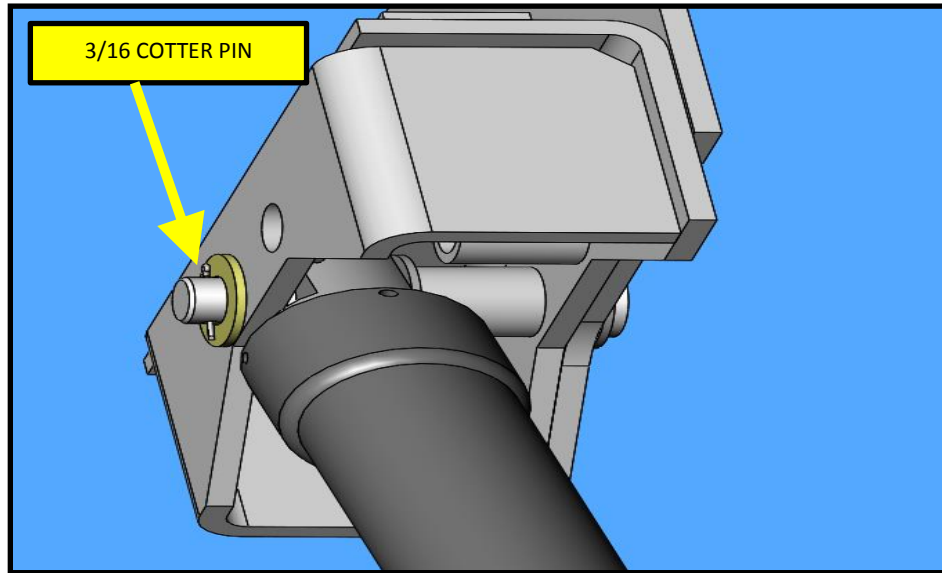

FIG. 7-1
11. Remove and discard (1) 3/16 cotter pin from the upper mount of the driver side lift cylinder. Refer to FIG. 7-1